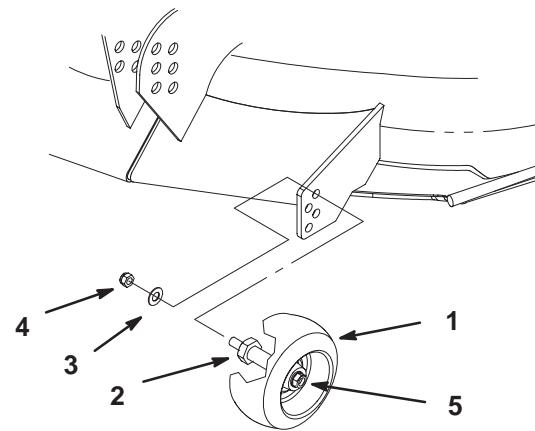

Figure 15
1. After adjusting height-of-cut remove nut and washer while holding stud with wrench (Fig. 15).
- Note:** Do not remove the wheel nut and washer (Fig. 15).
2. Select a hole position so the gage wheel is 3/8 inch (9.5 mm) off the ground for the height-of-cut to be used (Fig. 15).
3. Reinstall the stud nut and washer (Fig. 15).